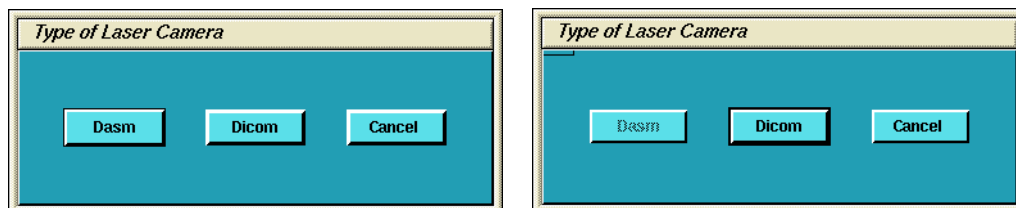

Figure 3-3 Dialog Box for camera Type (with and without DASM)
- b.) A dialog window for the camera type (DASM/DICOM) appears. If no DASM is detected during the OC boot, the DASM button will be disabled (Figure 3-3). If a DASM is present and has not been detected, re-boot the OC and run the camera configuration tool again.